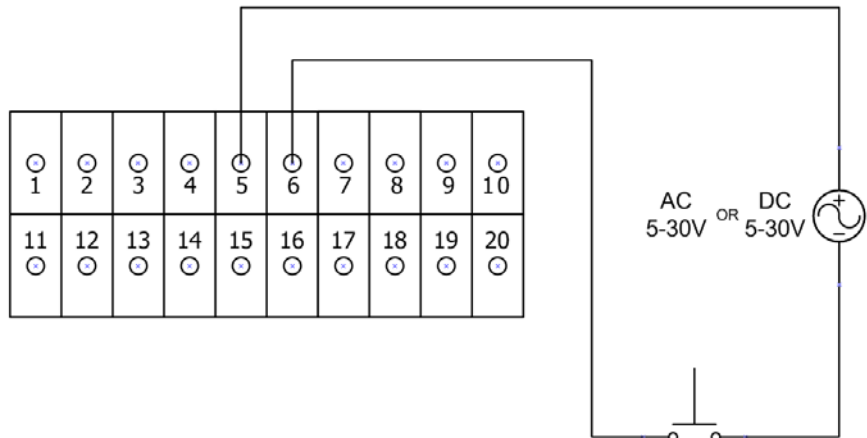

Figure 19. External Power Supply
- Connect the negative of your power supply to terminal 6 (see Figure 19).